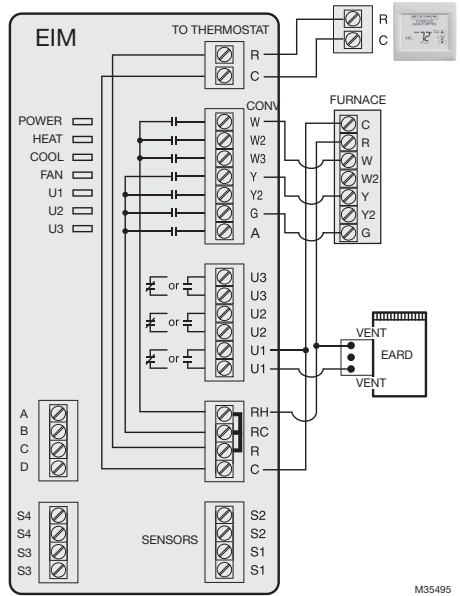

Fig. 3. Wiring an EARD to a VisionPRO® with RedLINK™.
- c. For EARD wiring, use only 2 VENT terminals. See Fig. 3